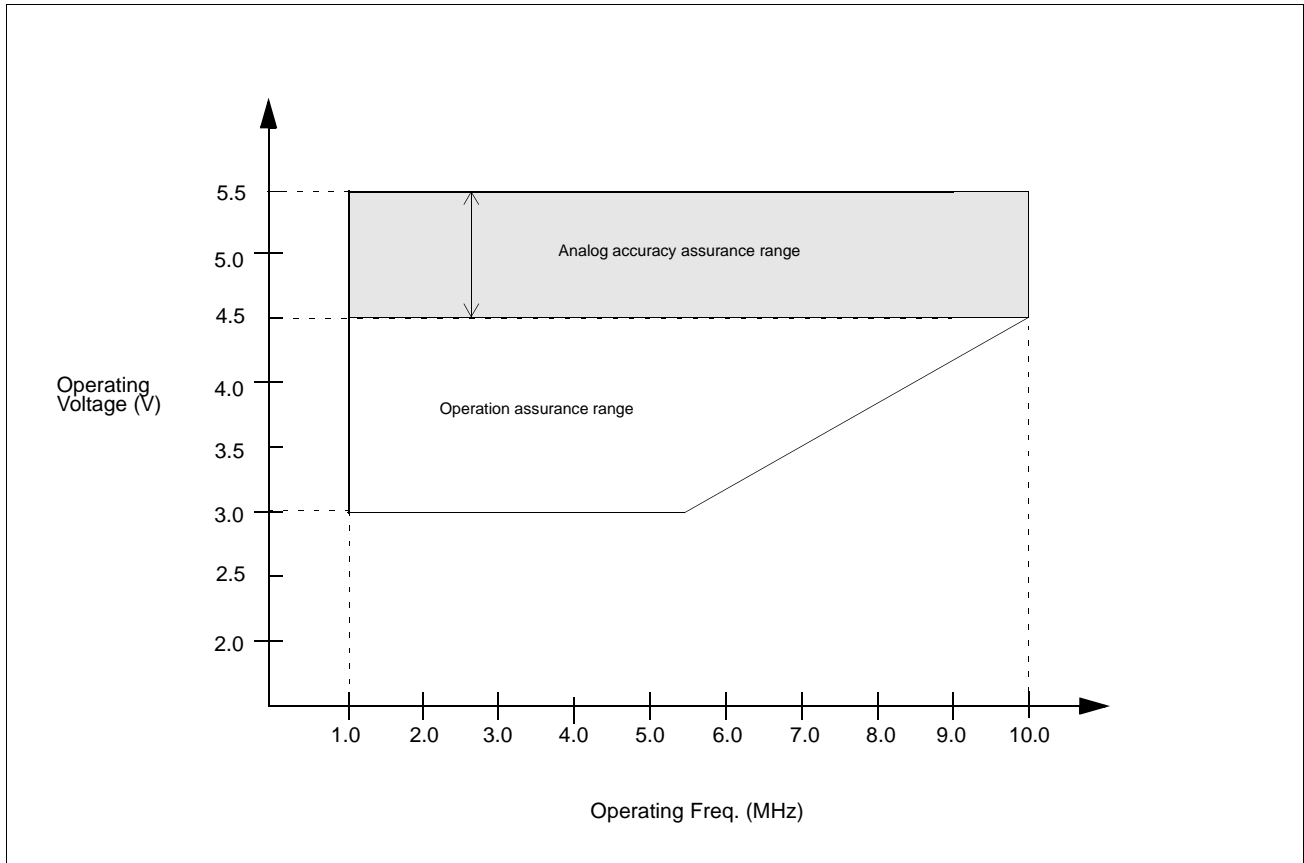

Figure 1 Operating Voltage vs. Operating Frequency
*: This value depend on the operating conditions and the analog assurance range. See Figure 1 and "5. A/D converter Electrical Characteristics."